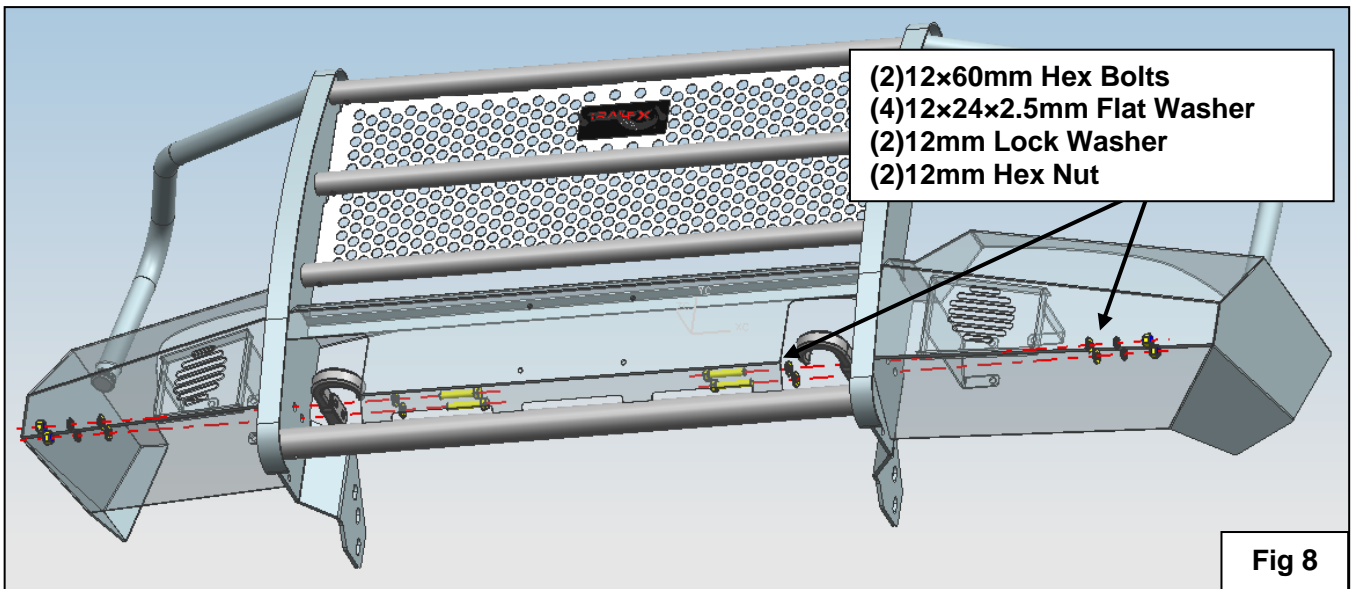

**Fig 6**
1. Remove the fog light from the vehicle. Use the OEM screws and nut plates to fasten the fog light to the bumper (Fig 6).